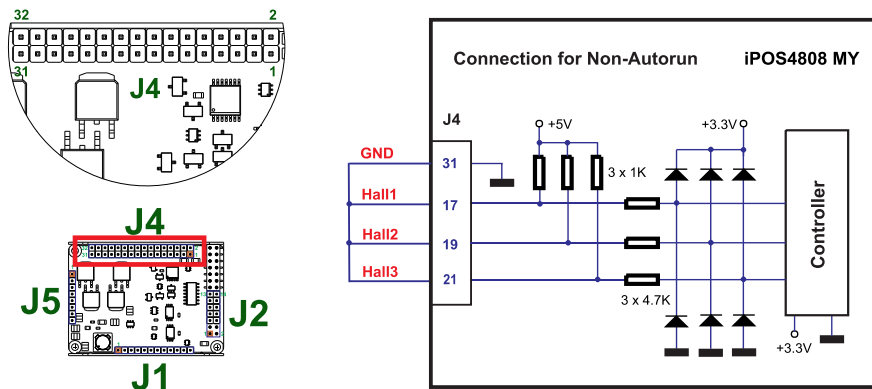

Figure 3.33. Temporary connection during power-on to remove the drive from *Autorun* mode
- b) Hardware – by temporary connecting all digital Hall inputs to GND, during the power on for about 1s (until the green led is turned on), as shown in *Figure 3.33*. This option is particularly useful when it is not possible to communicate with the drive.